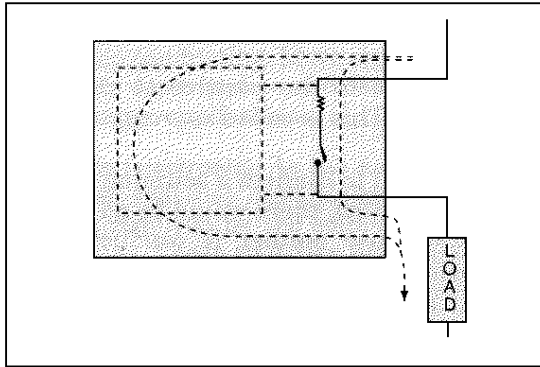

FIGURE 7. An example of two-wire technology.
When the circuit is closed, a small amount of energy is diverted from the main circuit to power the electronics (Figure 7) with two-wire technology. The electronics require a supply voltage at all times. The output switch cannot close in parallel because it would short circuit the electronics. A resistor (R) in series with the output switch represents the power supply circuit. Obviously, the current passing through it creates a voltage drop, which is higher than the three-wire case where we have only the switch in the circuit.